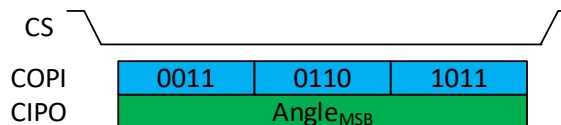

Figure 18: 12 clock cycles Read Angle
- It is possible to read a 12-bit Angle without CRC4 in 12 clock cycles (Figure 18). In this case too, an eventual communication error will not be detected.